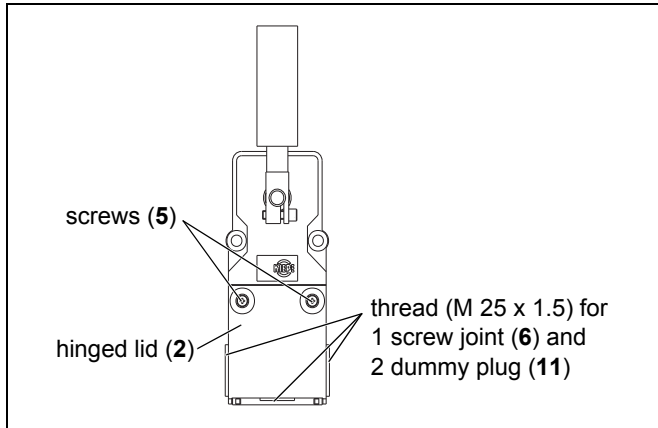

Fig. 5-5: Connection of the misalignment switch
2. Turn a screw joint (6) into the thread (M 25 x 1.5) of the misalignment switch .
3. Seal the other two openings with the dummy plug (11)
4. Loosen the two screws (5) and open the hinged lid (2) (see Fig. 5-5).
5. Pull the connection cable through the screw joint (6) (see Fig. 5-5).
7. Check the seal (13) in the hinged lid (2) for damage. Replace a damaged seal (13) (see Section 7.2, page 23).
8. Tighten the screw joint (6) to a **tightening torque of XX Nm**.
9. Close the hinged lid (2) and tighten both screws (5) to a **tightening torque of 0.4 Nm** (see Fig. 5-5).
4. Rotate the roller lever (3) into the required position and tighten the socket head screw (9) to a **tightening torque of 4 Nm to 4.5 Nm**.
5. Close the hinged lid (2) of the misalignment switch MAS 001 and tighten both screws (5) to a **tightening torque of 0.4 Nm** (see Fig. 5-5).